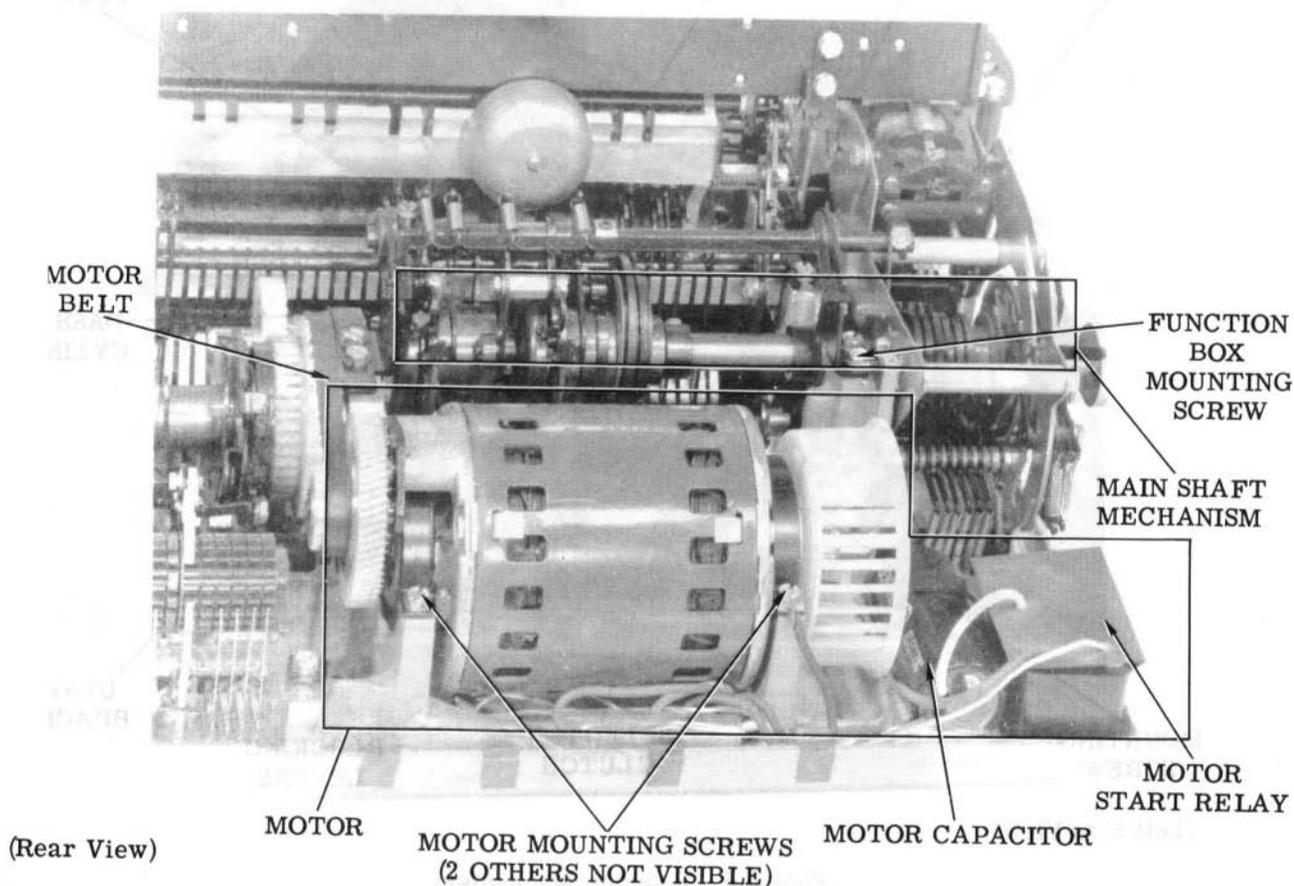

Figure 7 - Typing Unit
2.18 To remove main shaft mechanism (Figure 7), proceed as follows.
- 2.19 To remove motor (Figure 7), proceed as follows.